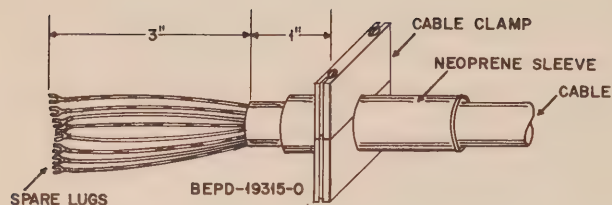

Figure 2.
- (3) Attach the rectangular cable clamp to the control cable. On smaller diameter cables it will be necessary to slip the neoprene sleeve over the cable to permit the clamp to grip the cable properly. Refer to Figure 2.